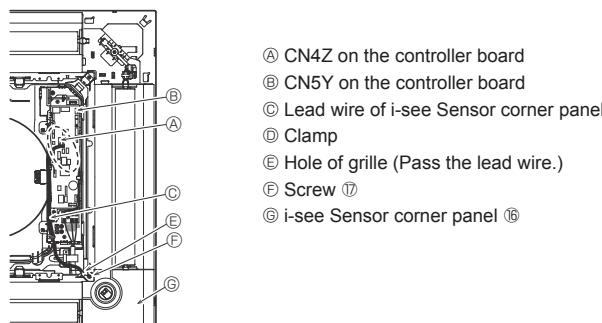

Fig. 9-10
9.4.6. Installation of i-see Sensor corner panel (Fig. 9-10)
- Route the lead wire connector (white, 4 poles and white, 5 poles) of the i-see Sensor corner panel ⑯ from the side of the electrical box on the main unit and connect to the connector CN4Z and CN5Y on the controller board.